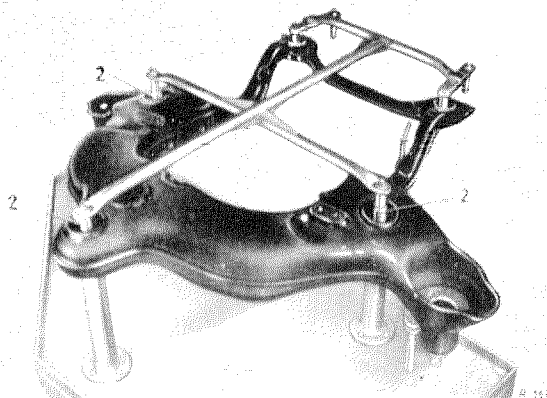

Fig. 33—8/7
The two check bolts (2) (see Fig. 33 — 8/6) must be inserted in the bores at the support arms for the rear engine suspension. The check bolts (2) must then be in the middle of the bores and their ends must be flush with the lower side of the cross tube. Deviations of up to 2 mm in the vertical and in the horizontal planes are permissible.